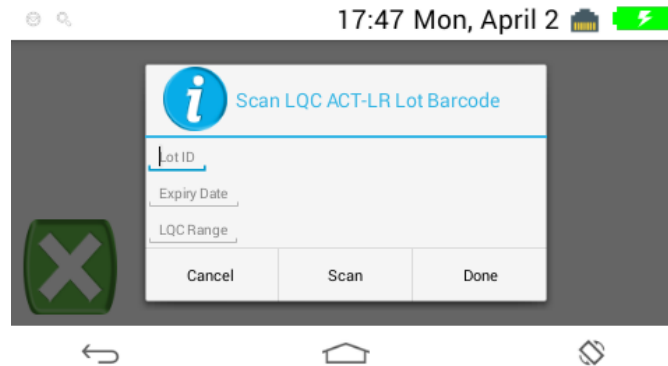

Figure 51 – Dialog box for entering LQC lot information
- **LQC testing is allowed** – If  is displayed for EQC, LQC testing is allowed. See Figure 51. Go to the next step.